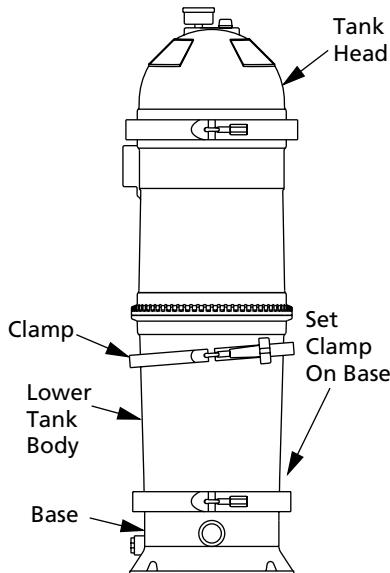

Figure 5A – 4RK12
6. Remove clamp fastener from clamp indicated in Figures 5A and 5B.
7. Loosen indicated clamp (See Figure 5). Remove clamp by lifting it straight up over tank or dropping it onto filter base (See Figures 5A, 5B, 6, and 7, below).